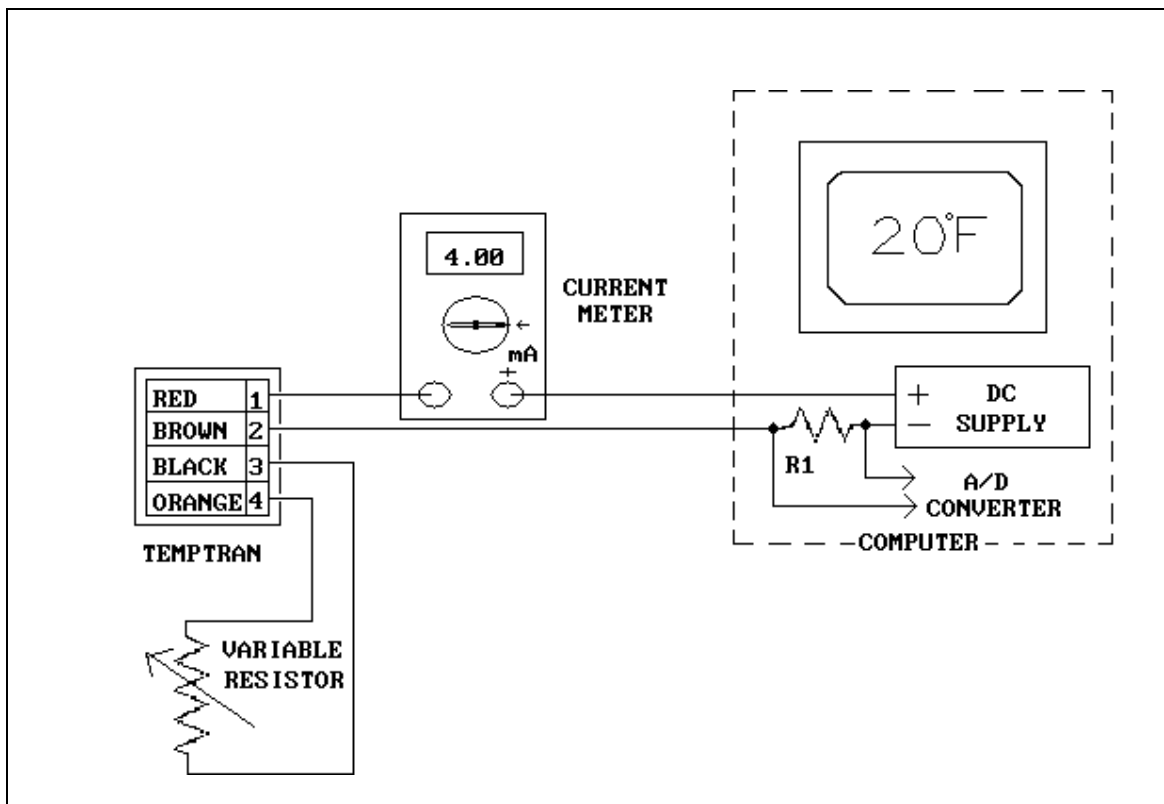

Figure 2 Check computer's reading
1. Connect as shown in Fig. 2.